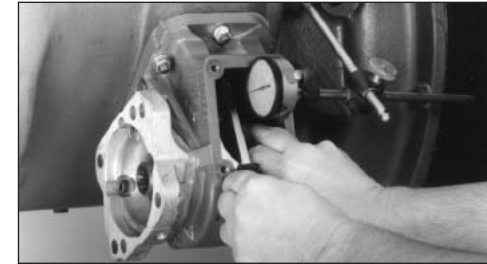

Fig. 10
2. Mount the dial indicator so that it registers movement of the input gear (driven gear) of the P.T.O. (Fig. 10).